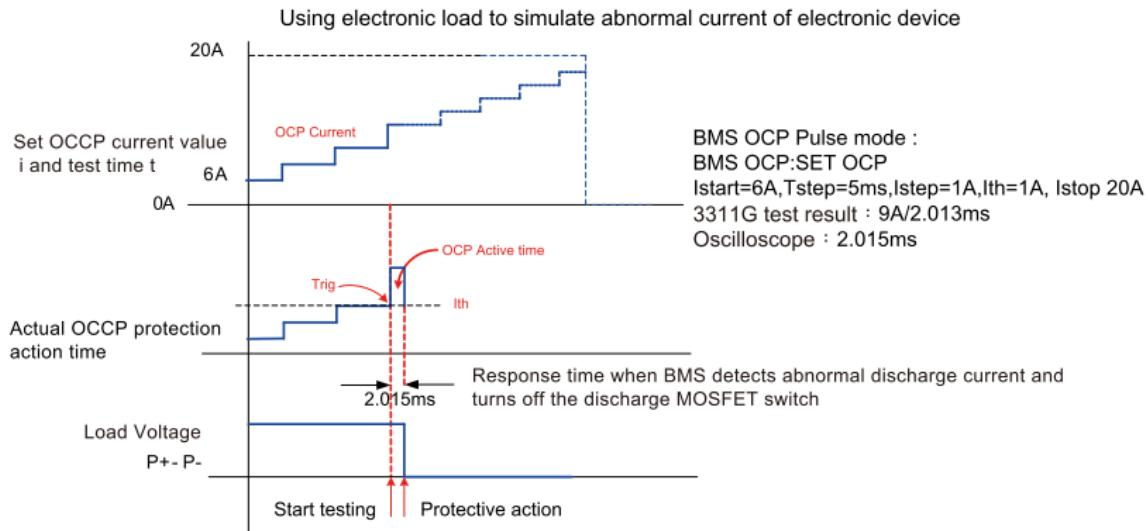
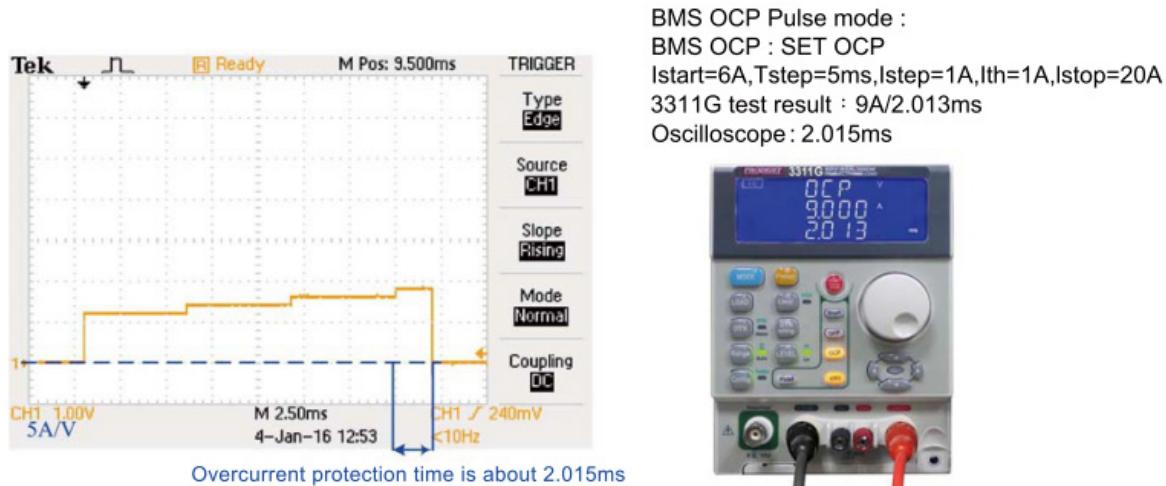

Figure 2.8 3311F BMS overcharge flow test program diagram (continuous STEP pulse)
Figure 2.9 3311G BMS Overcharge flow Test Results (Continuous STEP Pulse)
- The overcurrent protection test mode of continuous STEP pulse is similar to the single pulse mode. In addition to the initial current setting, the continuous STEP pulse mode increases the time of each STEP, the current increased by each STEP and the current value of the final STEP. Figure 2.8 is the 3311G single pulse current BMS overcharge current test program diagram. Figure 2.9 is the actual test result, the left picture is the oscilloscope current waveform diagram when BMS overcharge current protection, the right picture is the actual test overcharge current value of 3311G BMS and Protect the reaction time.